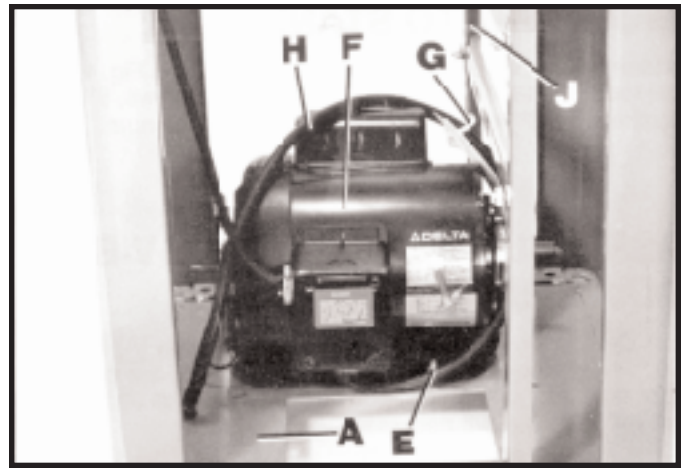

Fig. 10
3. Remove two mounting screws, one of which is shown at (E) Fig. 10, that are holding motor (F) to the top of stand (A). IMPORTANT: DONOT REMOVE CABLE TIE (G) THAT IS HOLDING SWITCH CORD (H) TO VERTICAL MOUNTING BAR (J), UNLESS YOU ARE USING THE ACCESSORY 28-984 HEIGHT ATTACHMENT ON THE BAND SAW .THIS CABLE TIE (G), WILL KEEP THE SWITCH CORD (H) FROM CONTACTING THE MOTOR PULLEY OR BELT DURING OPERATION.